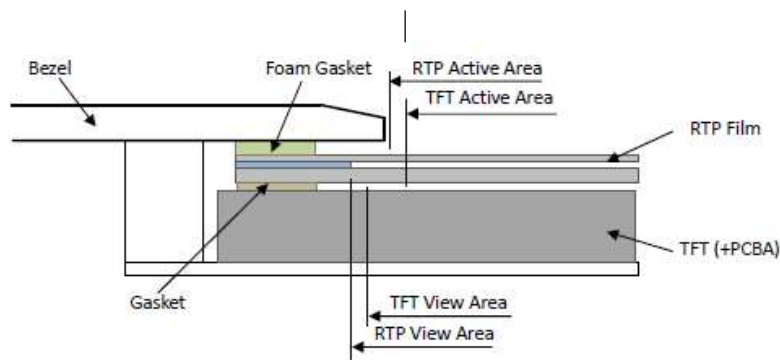

Figure 5
- and RTP A.A. should be bigger than the TFT A.A. (Figure 5)
- 及 RTP 的动作区 A. A. 应不小于 TFT 的动作区 A. A. (附图 5)